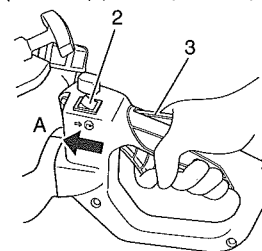

Fig. 3
1. Set stop switch (2) to ON position (A). (Fig. 3)